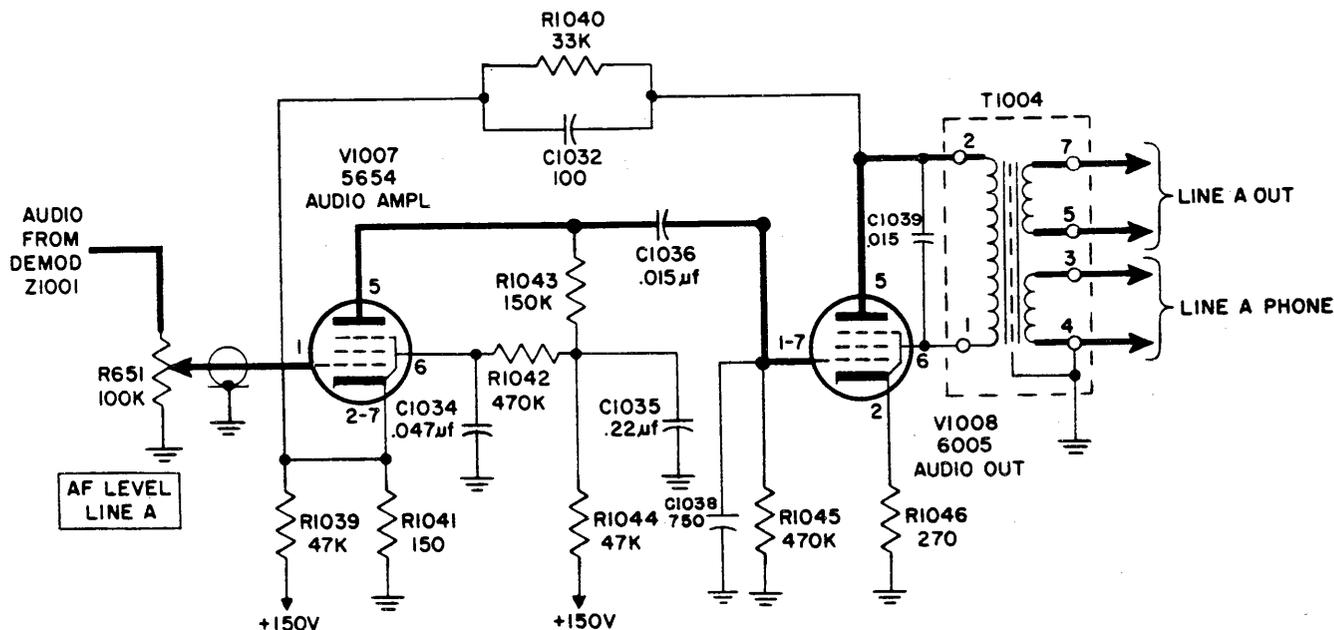

Figure 4-30. Audio Amplifiers V1007 and V1008, Simplified Schematic Diagram
e. AUDIO AMPLIFIERS V1007 and V1008. (See figure 4-30.)—Audio amplifier V1007 and V1008 are audio output stages. The level of input to V1007 is controlled by R651, and the amplified output of V1007